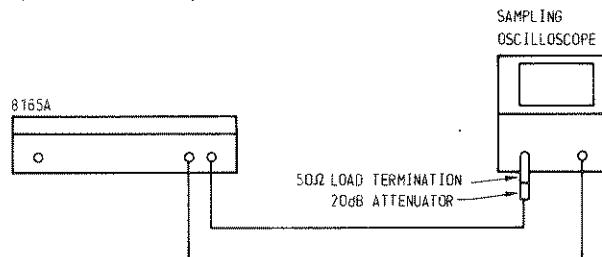

Figure 4–6. Test Setup for Pulse Characteristics.
1. Connect the equipment as shown in Figure 4–6.